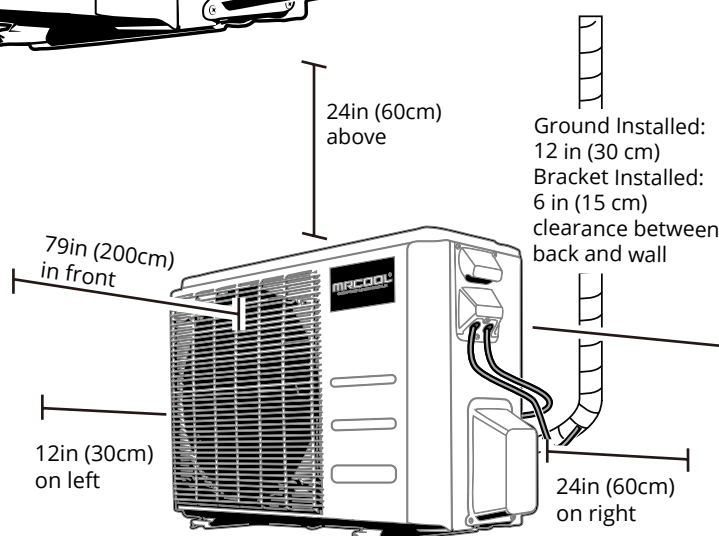

Fig. 5.1
- ✓ Meets all spatial requirements shown in Installation Space Requirements (Fig. 5.1)